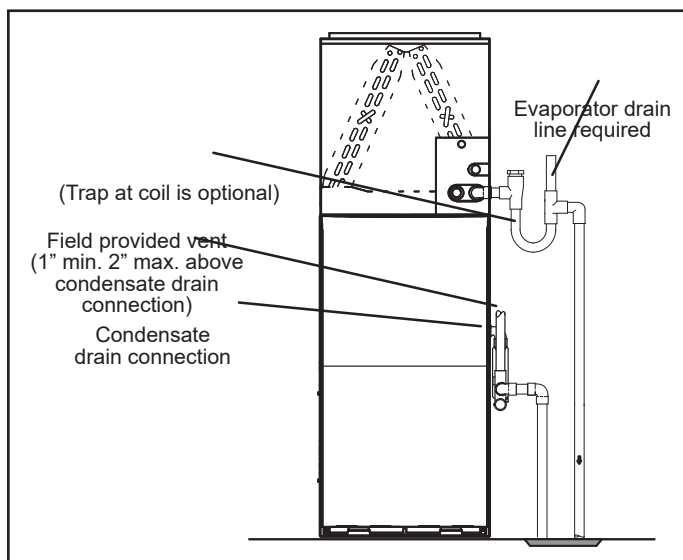
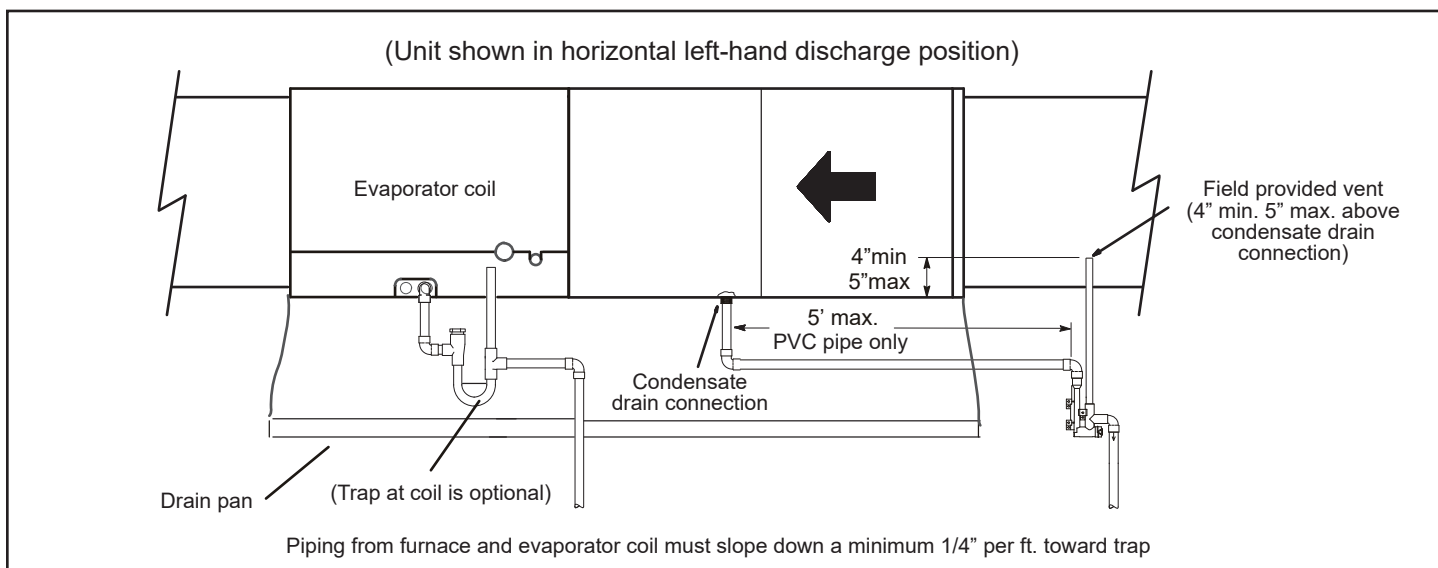
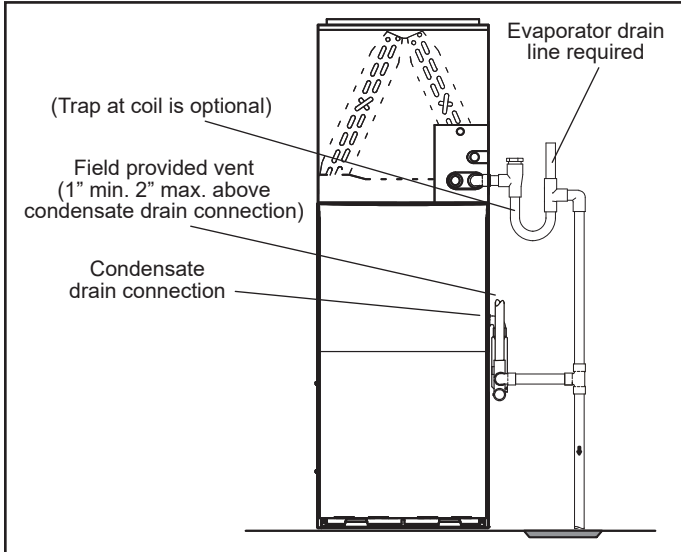

Figure 46. Furnace with Evaporator Coil Using a Separate Drain
Figure 47. Furnace with Evaporator Coil Using a Separate Drain
Figure 48. Furnace with Evaporator Coil Using a Common Drain
5. Figure 46 and Figure 47 show the furnace and evaporator coil using a separate drain. If necessary the condensate line from the furnace and evaporator coil can drain together. See Figure 48 and Figure 50.
Upflow furnace (Figure 46 and 48) - In upflow furnace applications the field provided vent must be a minimum 1" to a maximum 2" length above the condensate drain outlet connection. Any length above 2" may result in a flooded heat exchanger if the combined primary drain line were to become restricted.
Horizontal furnace (Figure 47 and 50) - In horizontal furnace applications the field provided vent must be a minimum 4" to a maximum 5" length above the condensate drain outlet connection. Any length above 5" may result in a flooded heat exchanger if the combined primary drain line were to become restricted.